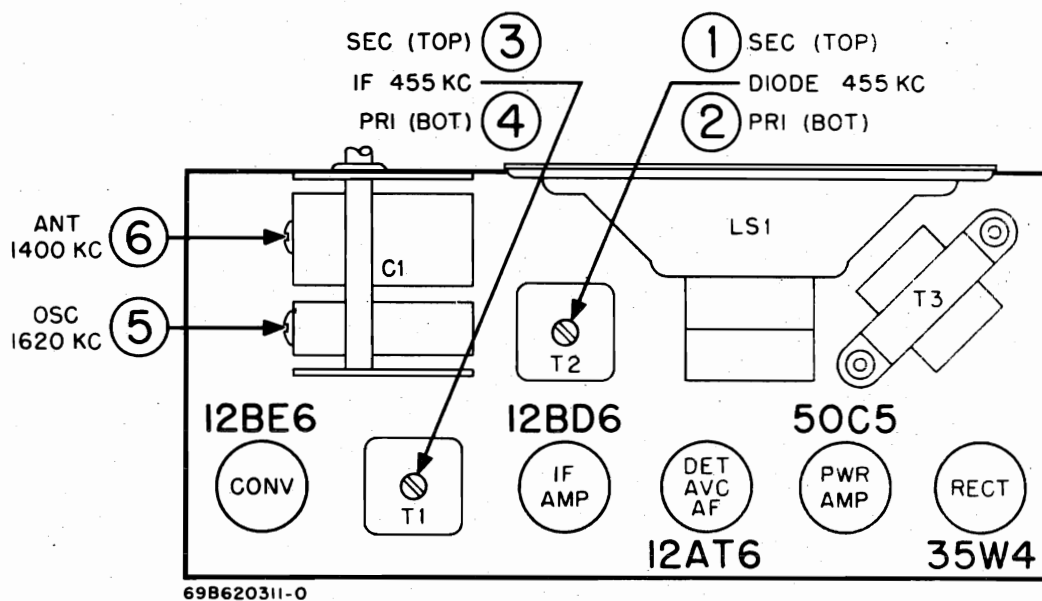

FIGURE 1. TUBE AND TRIMMER LOCATION
7. See Figure 1 for adjustment locations and the following chart for procedure.